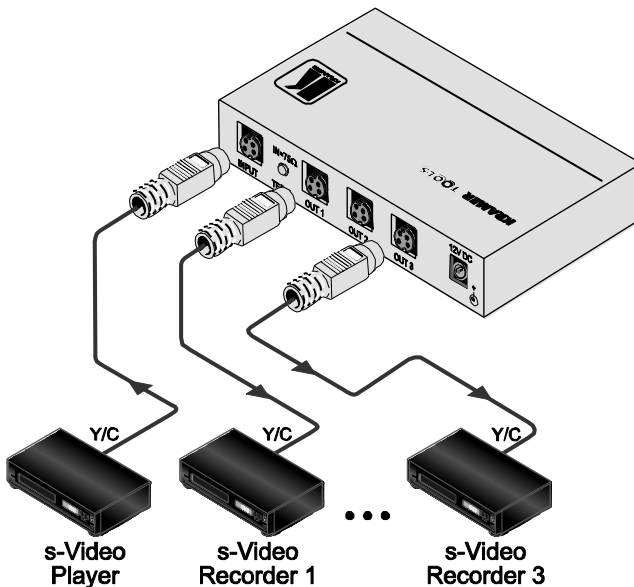

Figure 5: Connecting the VM-3SN s-Video Distributor
To connect¹ the **VM-3SN**, as illustrated in the example in *Figure 5*, do the following:
4. Connect the 12V DC power adapter to the power socket and connect the adapter to the mains electricity (not illustrated in *Figure 5*).
5. If required, adjust output chrominance (C) and luminance (Y) signal levels by turning the appropriate trimmer with a small screwdriver.